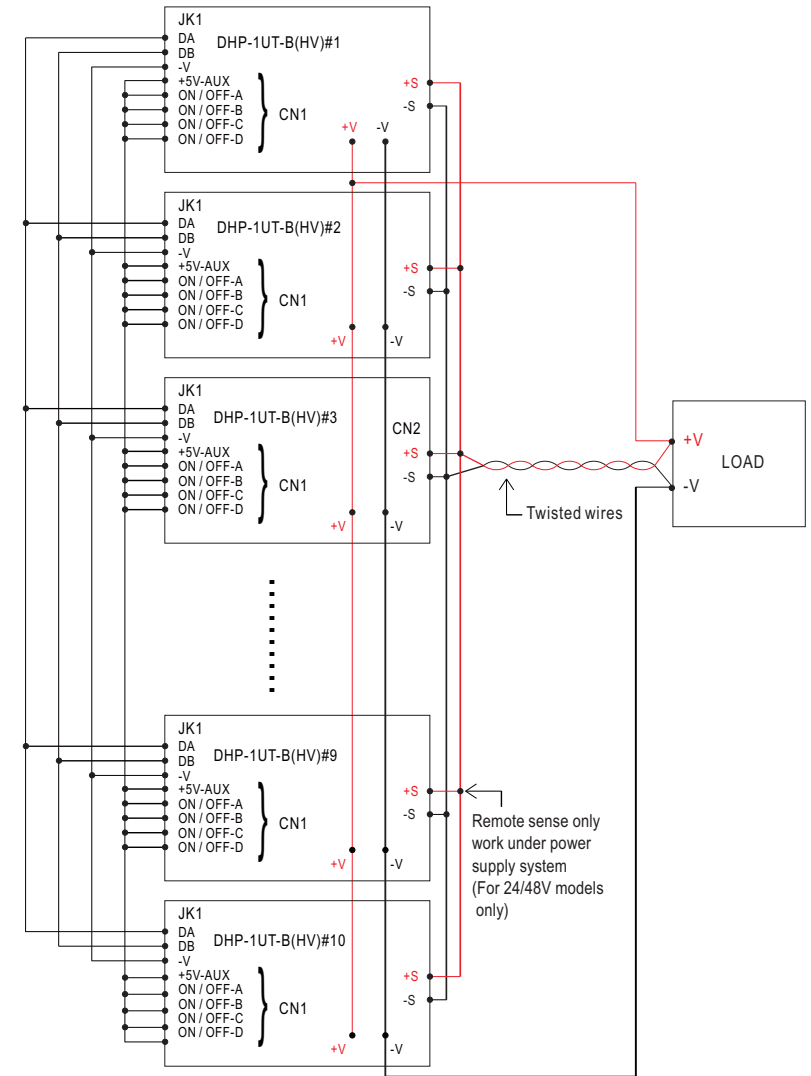

Figure 5-10
- Configure rack shelf units in parallel before connecting to the load. Do not connect rack shelf units to the load separately. Refer to Figure 5-10.
- Control singles of DA, DB and -V should also be connected in parallel. (Refer to Figure 5-10).
- Use twisted wires for the siring of +S and -S, the twisted wires should not touch the load wires to avoid interference. Refer to Figure 5-10.